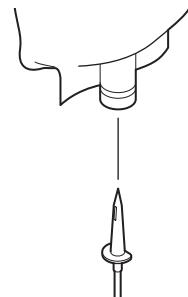

Figure 121 – Irrigation Bag Removal
6. Remove the irrigation tubing spike from the port of the collapsible irrigation fluid container or bag (Figure 121).